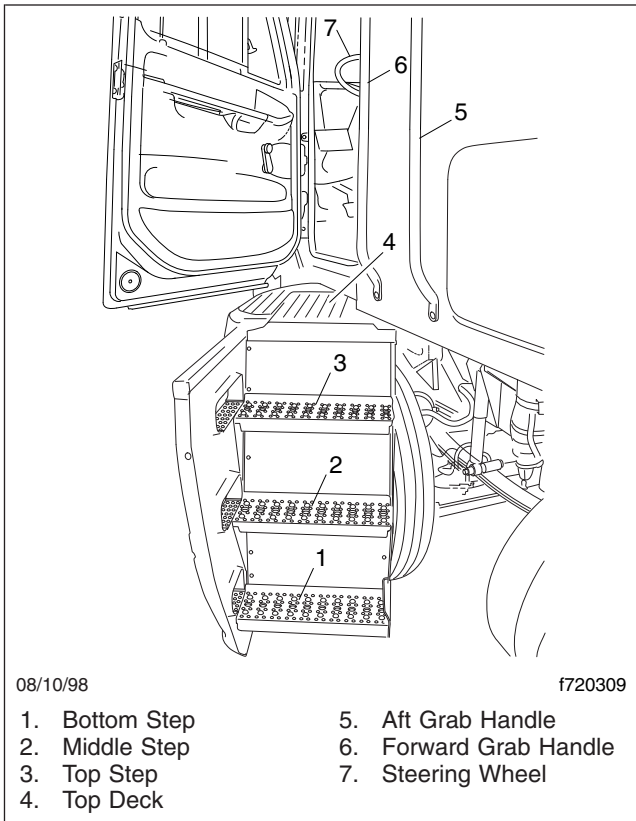

Fig. 2.6, Mobile Stairs, Left-Hand Side
2. Grasp the aft grab handle (Fig. 2.6) with your right hand and grab the forward grab handle with your left hand, reaching up as far as is comfortable.